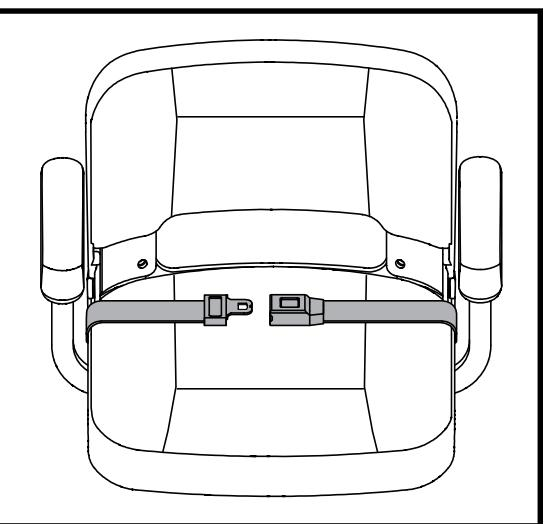

Figure 30. Positioning Belt - Metal Tab Style
Your scooter seat may be equipped with an auto-type positioning belt that can be adjusted for operator comfort. See **figure 30**. The positioning belt is designed to help support the operator so that he or she does not slide down or forward in the seat. The positioning belt is not designed for use as a restraining device.
1. Insert the metal tab on the right side of the belt into the plastic housing on the opposite strap until you hear a “click.” See **figure 30**.